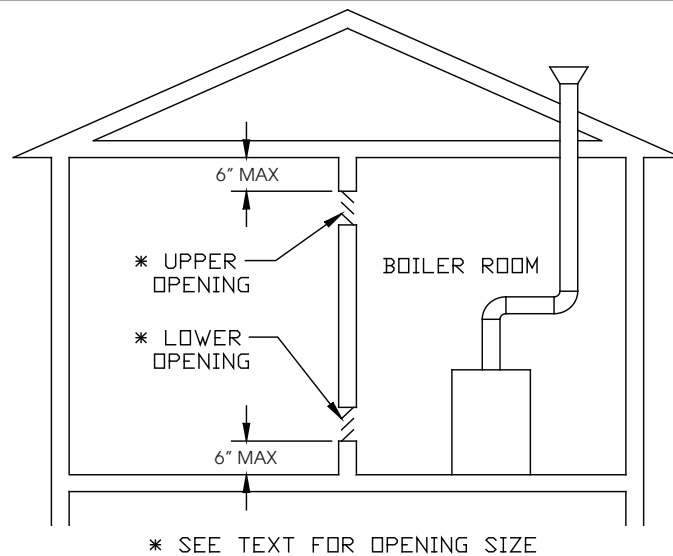

Figure 5.1: Indoor Combustion Air Method
- 4) If the result is at least 50 ft3 per 1000BTU/hr, and neither of the conditions described in (6) below are met, normal infiltration should provide adequate fresh air into the boiler room.
- 5) If the result is less than 50 ft3 per 1000BTU/hr, provide two openings into the boiler room, one near the floor and one near the ceiling. The top edge of the upper opening must be within 6” of the ceiling and the bottom edge of the lower opening must be within 6” of the floor (Figure 5.1):
Although combustion air is supplied through the air intake piping, ventilation air is still required around the boiler to prevent overheating of boiler components. If the boiler is installed in a closet, provide two openings in the closet, each having a net free area of 100 square inches as shown in Figure 5.1. Note that these openings are independent of the boiler size. Additional area may be required if other fuel burning appliances are installed in this closet.